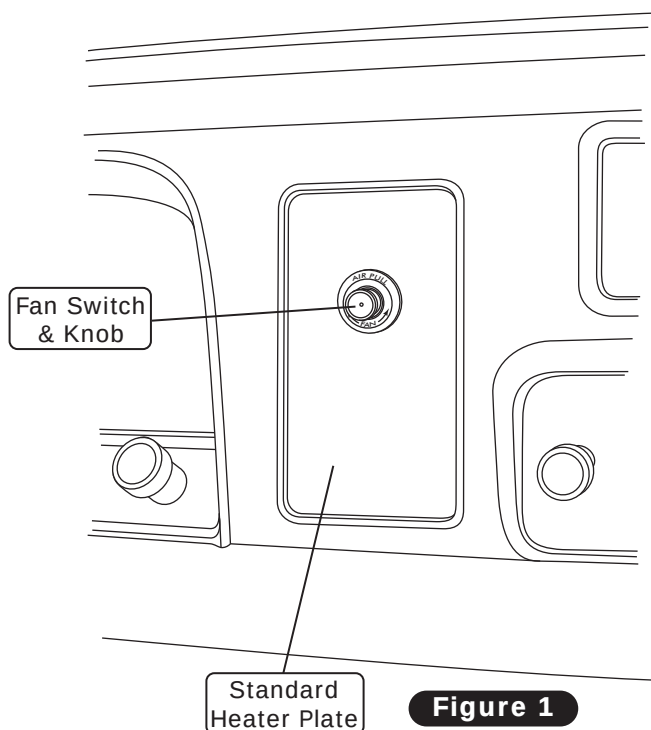

Figure 1
1. Remove the OEM fan switch and knob from the OEM standard heater plate (See Figure 1, below).